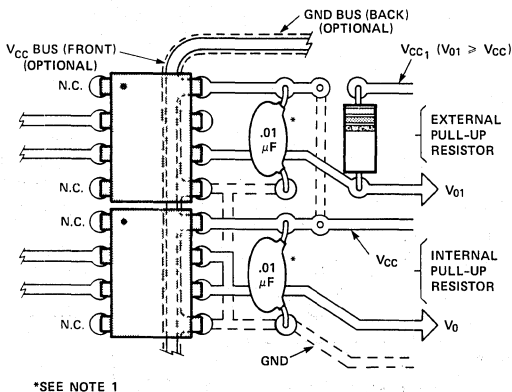

Figure 19. Recommended Printed Circuit Board Layout.
- Bypassing of the power supply line is required with a $0.01 \mu\text{F}$ ceramic disc capacitor adjacent to each optocoupler as illustrated in Figure 19. The power supply bus for the optocoupler(s) should be separate from the bus for any active loads, otherwise a larger value of bypass capacitor (up to $0.1 \mu\text{F}$) may be needed to suppress regenerative feedback via the power supply.